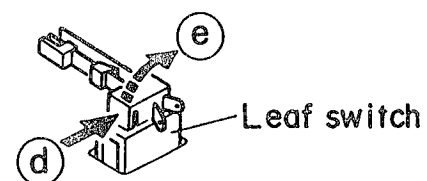

Fig. 2-20
(See Figs. 2-20 and 2-21)
1. Absorb the four soldered positions (M) of the right and left motors with a soldering absorber (See Fig. 2-20).
■ Leaf switch (Fig. 2-20)
Press the leaf switch in the direction of the arrow ④ and then remove it in the direction of the arrow ⑤ referring to Fig. 2-20.